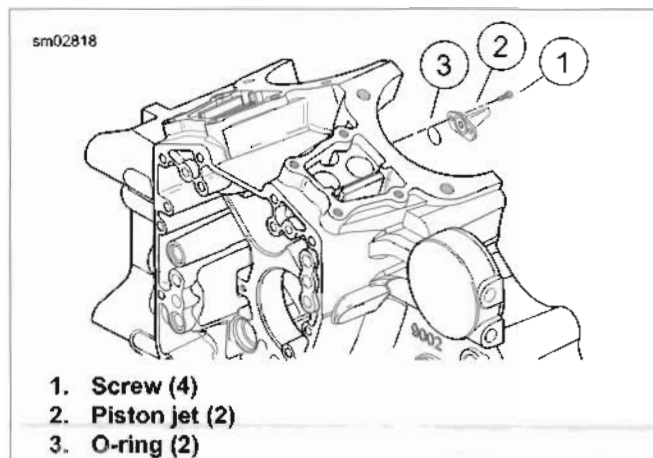

Figure 3-133. Piston Jets
1. See Figure 3-133. Remove two screws (1) to free piston jet (2) from crankcase.
2. Remove O-ring (3) from groove in mounting flange of jet. Discard O-ring.
1. See Figure 3-133. Apply a very thin film of clean H-D 20W50 engine oil to **new** O-ring (3) for piston jet. Install **new** O-ring in groove of jet mounting flange.
2. With jet pointed upward, start two screws (1) to secure piston jet (2) to crankcase. Tighten to 25-35 **in-lbs** (2.8-3.9 Nm).